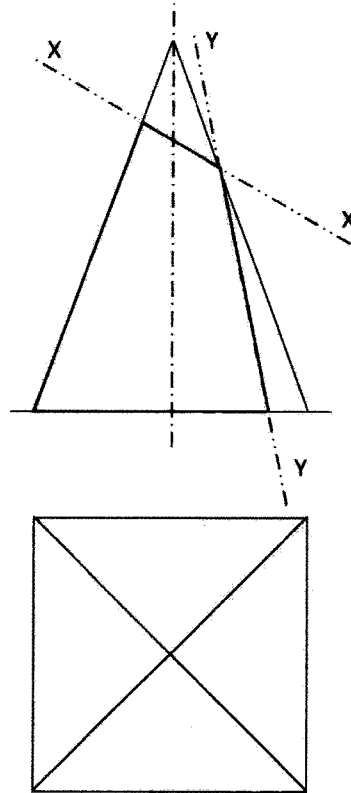

Figure 5
- 9 A right square pyramid is truncated along X-X and Y-Y as shown in figure 5.